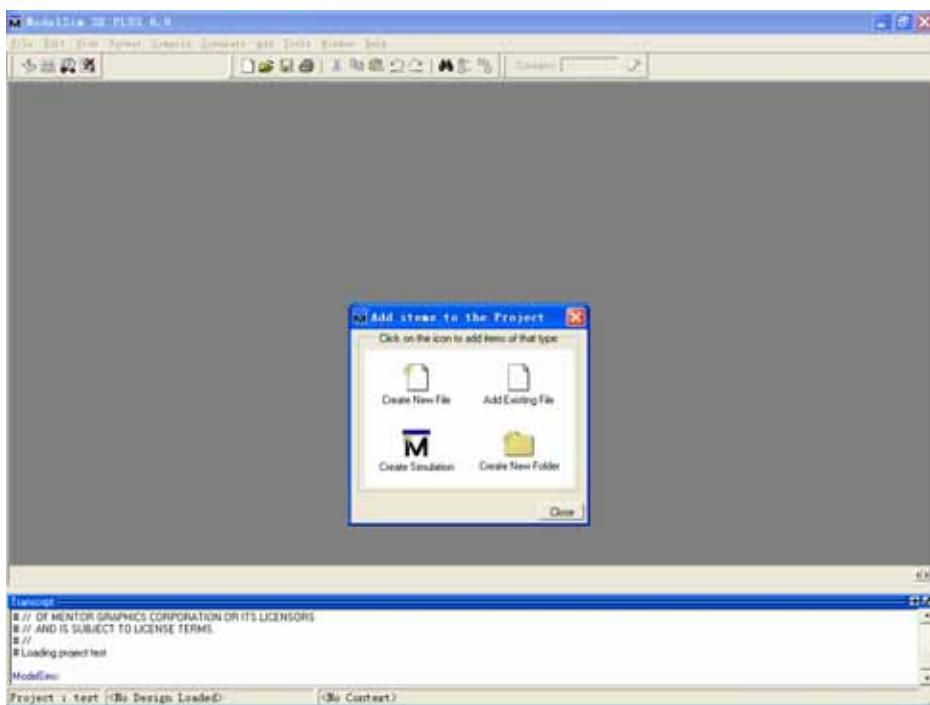

图 3. Add File to the Project 对话框
3. .点击 OK,进入图 3. Add File to the Project 对话框.单击”Add exsiting file”,弹出 Add file to project 对话框.